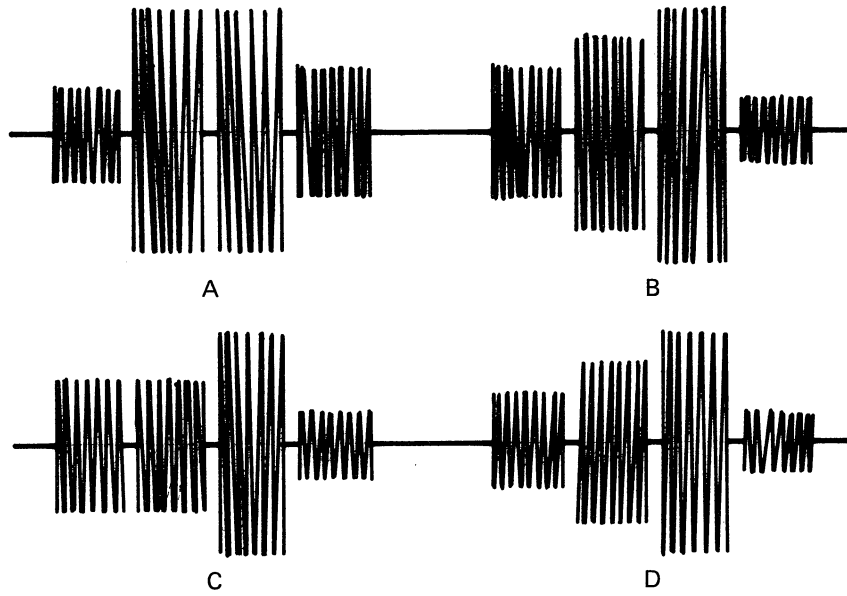

Figure 4. ACE 10 Floppy Disk Azimuth Test.
- E. Adjust the oscilloscope so that a steady display is shown. The display should look similar to those shown in Figure 4. The display labeled A is the ideal condition, however the other three displays are also acceptable. If the drive produces a display with the first or fourth bursts larger than the second or third, the drive does not have an acceptable azimuth reading.